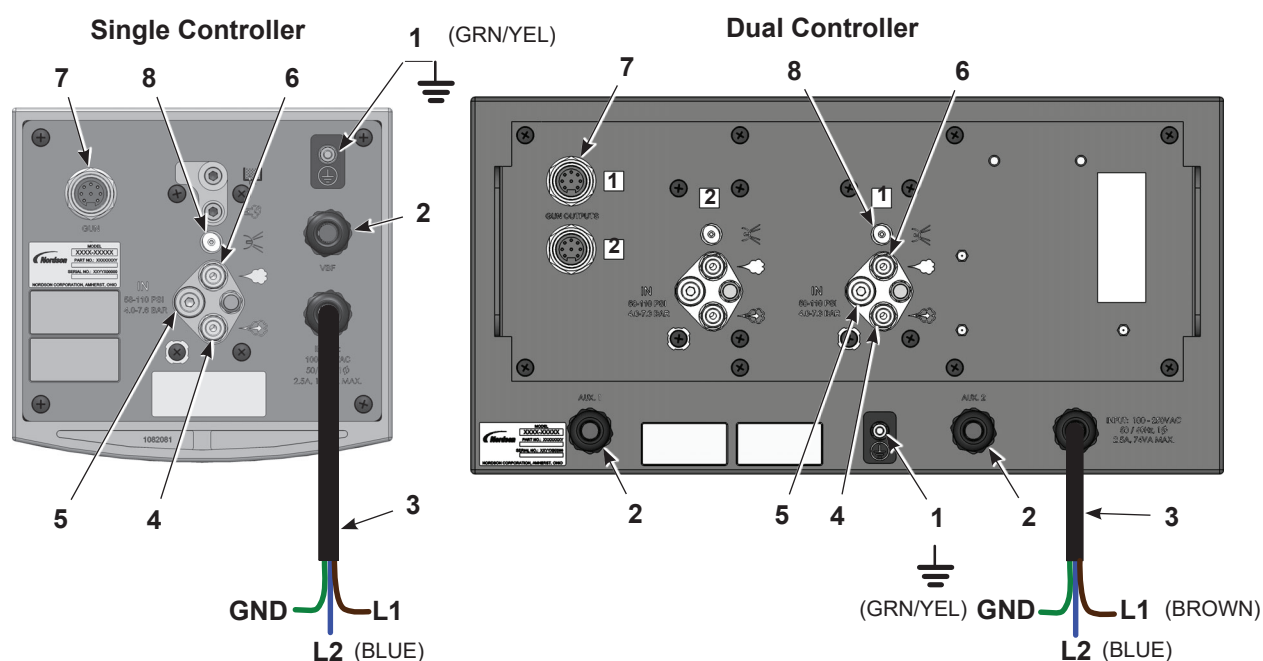
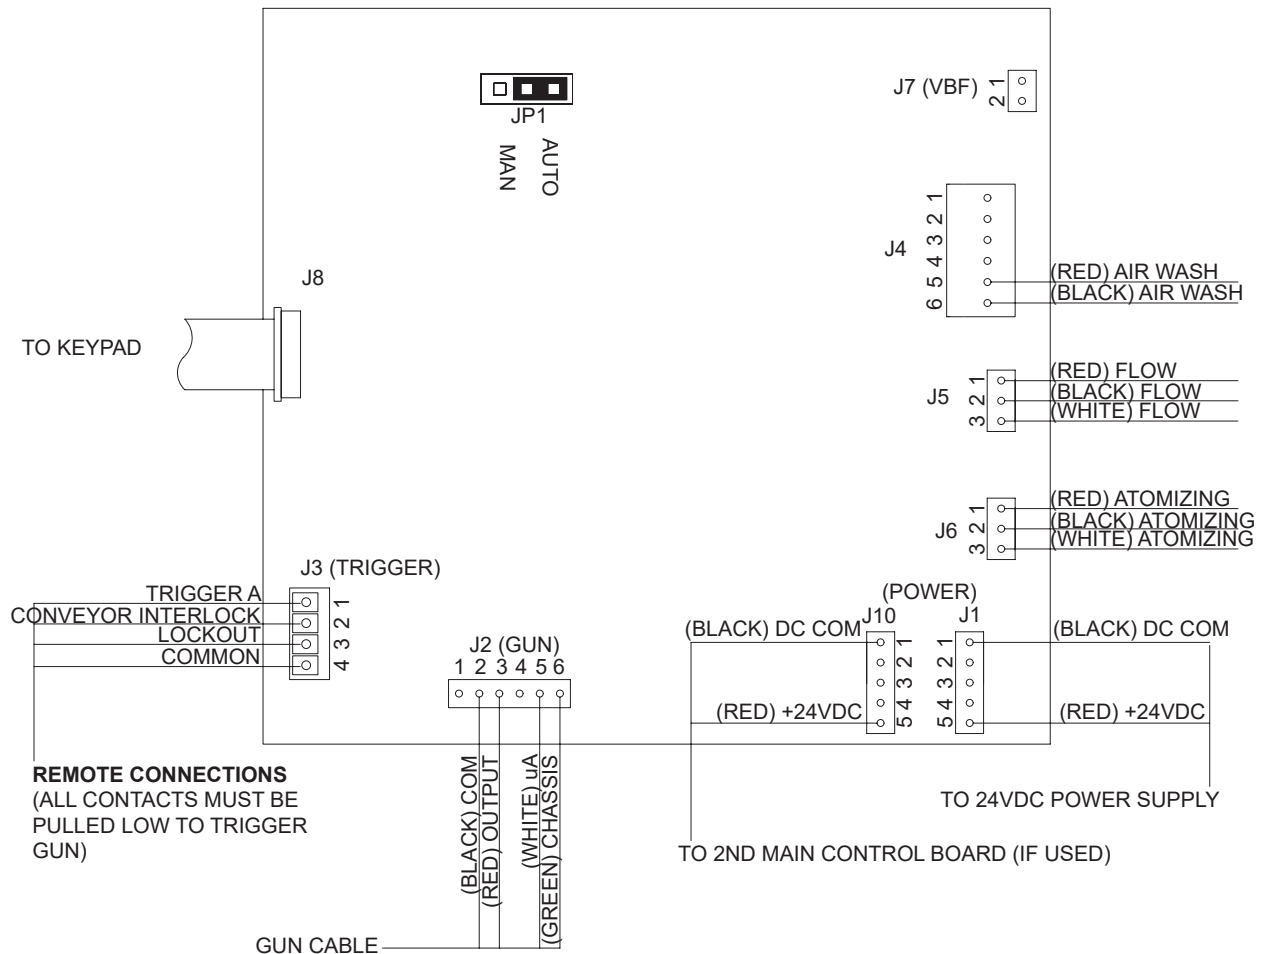
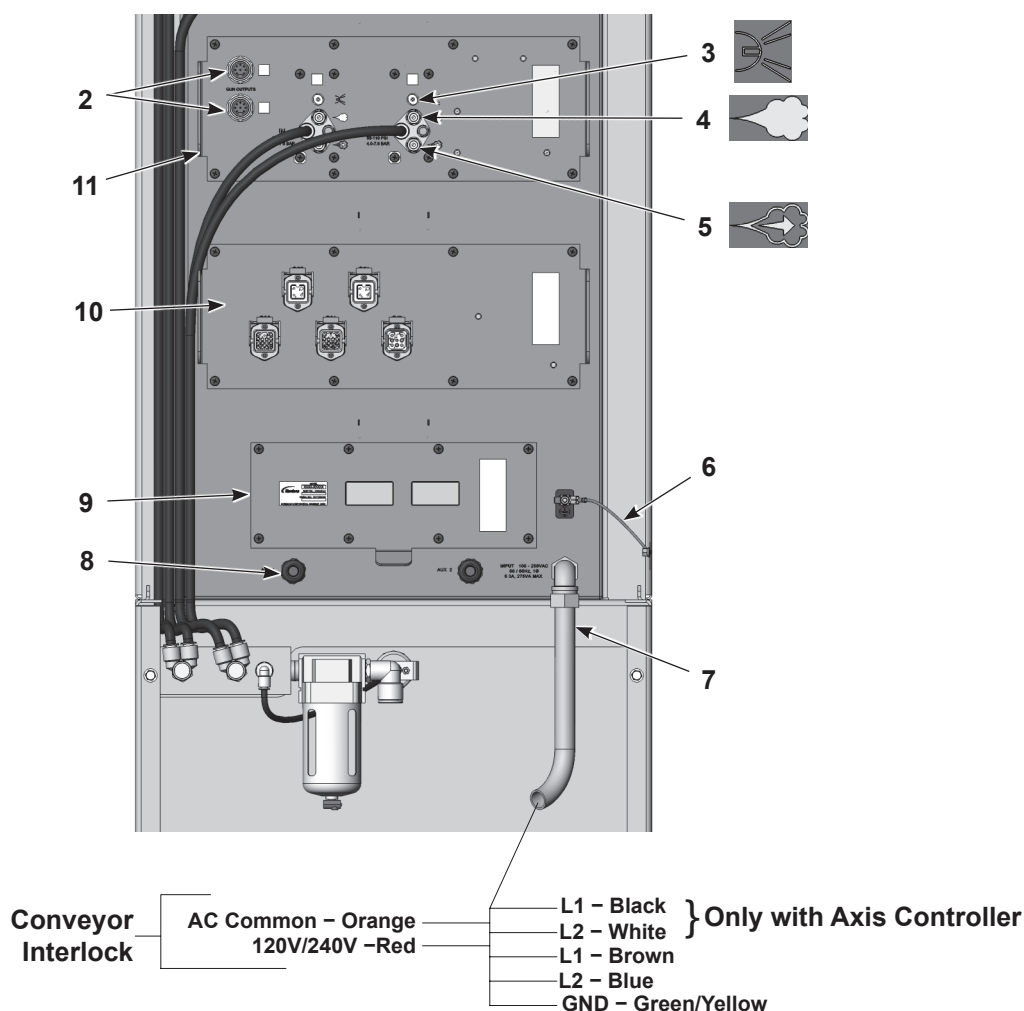

Figure 3-4 Single/Dual Automatic Gun Controller Connections
Figure 3-5 Single/Dual Automatic Gun Controller – Main Control Board Trigger/Interlock/Lockout Connections
Figure 3-6 Multi-Gun Controller – Power, Air, and Gun Connections (rear cover and rear kick panel removed)
Mount the controller on a flat surface with enough clearance around it to connect the power, air, and gun cable to the rear panel. Refer to Figure 3-4 for dimensions.
Make connections as shown in Figure 3-4. See Figure 3-5 for remote trigger, conveyor interlock, and remote lockout connections.
See Figure 3-5. Bring the trigger and interlock cables into the enclosure through the AUX or VBF strain reliefs and connect them to the J3 terminals on the main control board(s). The Trigger A, Conveyor Interlock, and Lockout circuits are all sinking circuits. These circuits operate on 10 mA $\pm$ 1.
Make connections as shown in Figure 3-6. See Figure 3-5 for external trigger and conveyor interlock connections.
See Figure 3-4. Supply compressed air to the controller at 4.0–7.6 bar (58–110 psi).
1. See Figure 3-4 or Figure 3-6. Connect 4-mm clear electrode air wash tubing to the air wash connectors on the gun controller panels.
1. See Figure 3-4 or Figure 3-6. Connect 8-mm black flow and blue atomizing air tubing to the gun controller connectors.
See Figure 3-5. Jumper JP1 on the Gun Main Control board must be placed in the AUTO position in order for it to function properly with automatic spray guns. If it is in the MAN position the guns cannot be triggered remotely. Refer to *Troubleshooting* to change the jumper position.